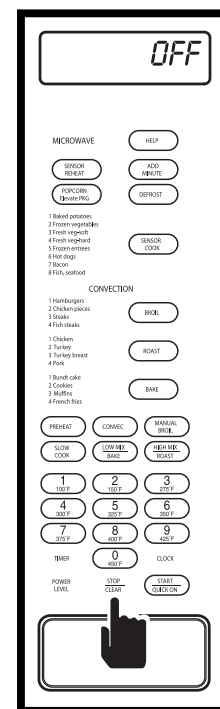

Figure 3-70.
6. When the STOP/CLEAR key is pressed at this time, the display will flash “DEMO - OFF ” (See Figure 3-70) and then show time of day.